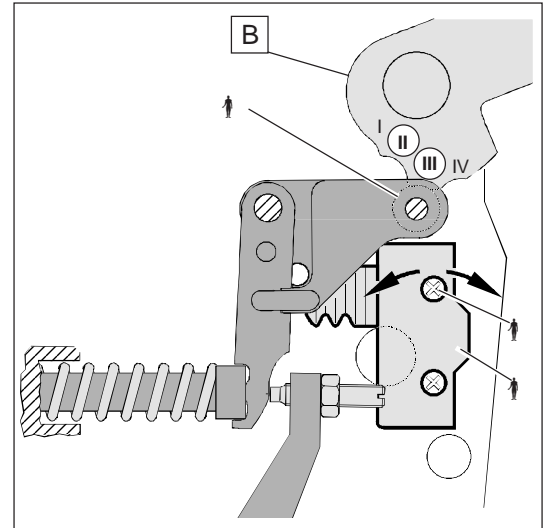

Fig. IV5-1
- a) Insert adjustment cam "B" in corresponding housing hole. Position cam on sleeve of actuating lever (item 1).
- c) Loosen screw (item 2) a few turns and move electric switch (item 3) until switching point can be heard.
- d) Tighten screw hand-tight. Fig. IV5-1